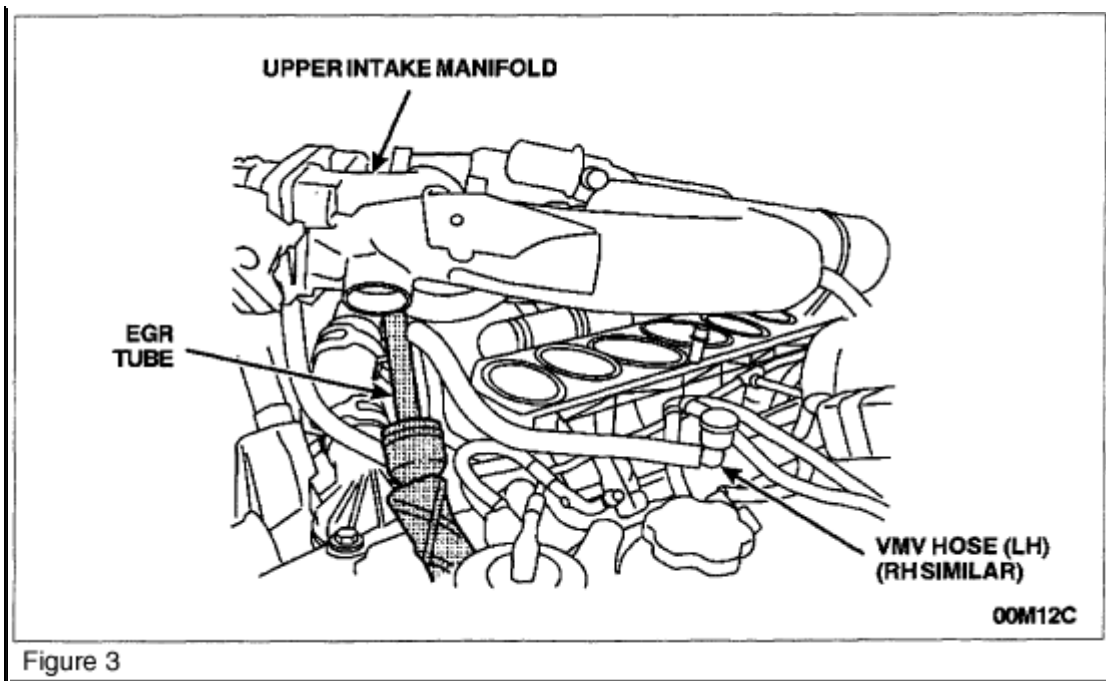

Figure 3
9. Lift up the upper intake manifold to access the vapor management valve (VMV) hoses. Remove the locking clips and disconnect the right and left VMV hoses. See Figure 3.
10. Remove the upper intake manifold by carefully sliding the manifold off of the exhaust gas recirculation (EGR) tube. See Figure 3.